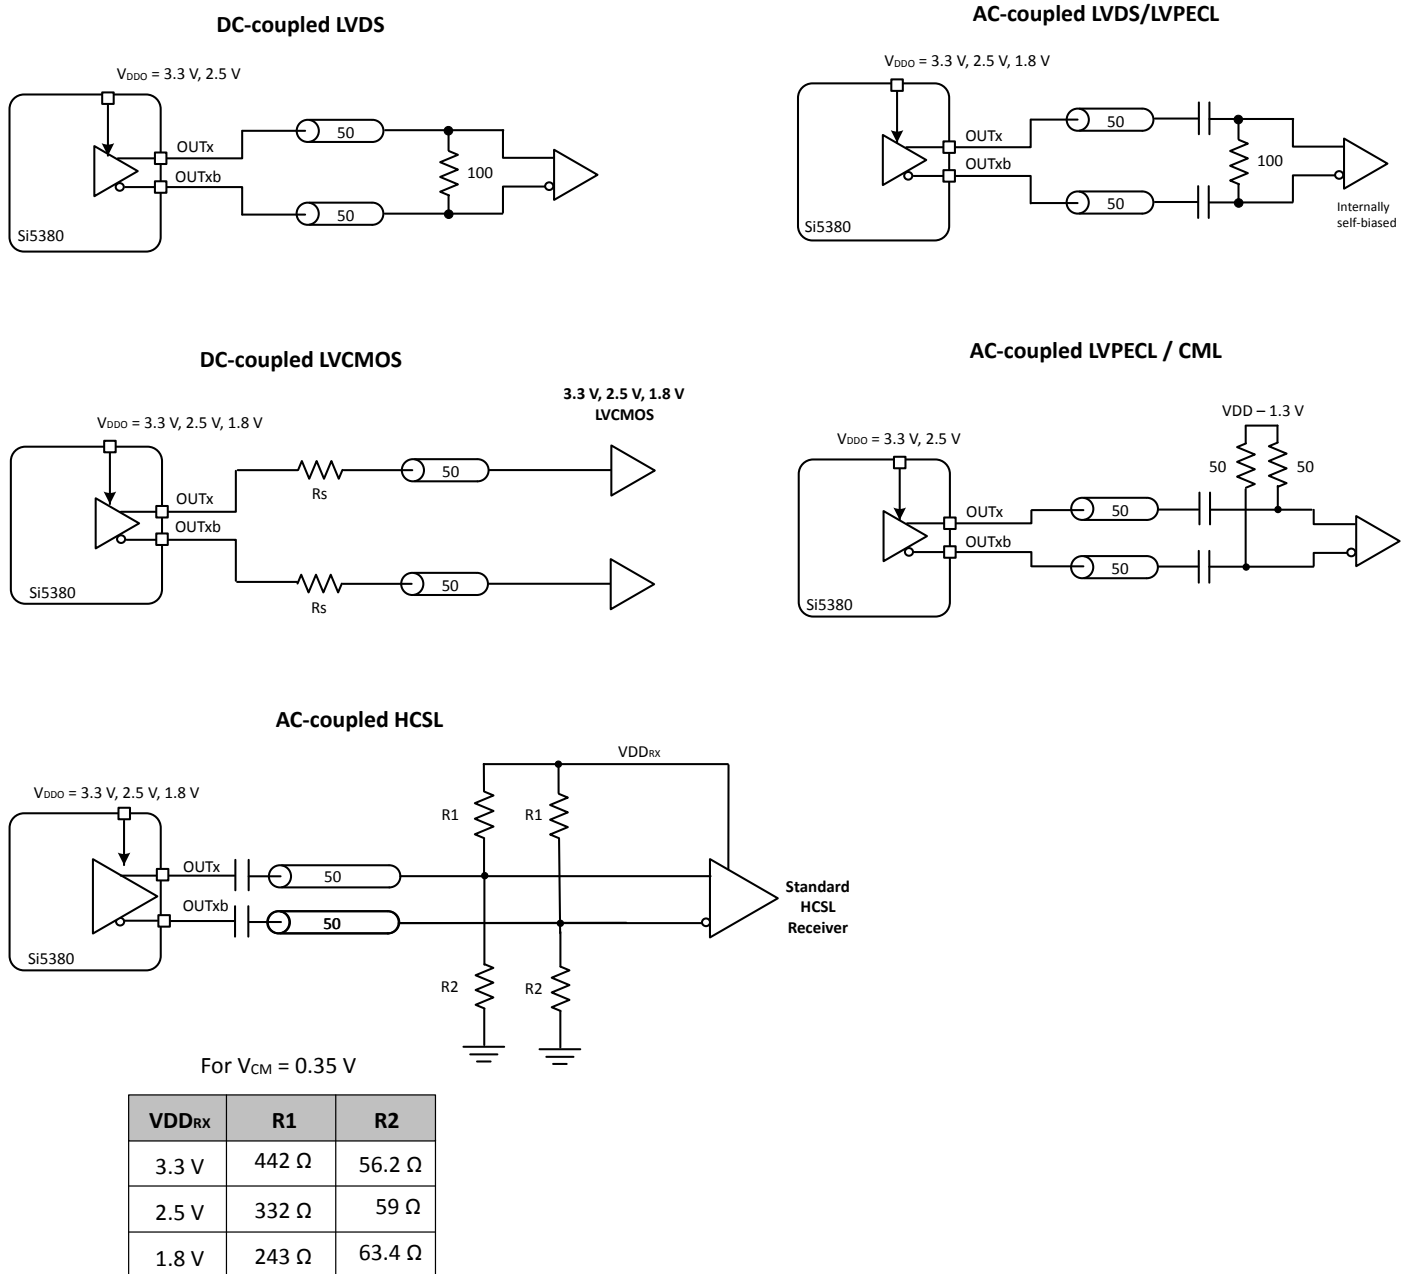

Figure 3.14. Supported Output Terminations
- **Differential Normal Mode:** When an output driver is configured in normal amplitude mode, its output amplitude is selectable as one of 8 settings ranging from 130 mVppse to 920 mVppse in increments of 100 mV. The output impedance in the normal mode is 100  $\Omega$  differential. Any of the ac-coupled terminations shown in Figure 3.14 Supported Output Terminations on page 15 are supported in this mode.
- **Differential Low Power Mode:** When an output driver is configured in low power mode, its output amplitude is configurable as one of 8 settings ranging from 200 mVppse to 1600 mVppse in increments of 200 mV. The output driver is in high impedance mode and supports standard 50  $\Omega$  PCB traces. Any of the ac-coupling terminations shown in Figure 3.14 Supported Output Terminations on page 15 are supported in this mode.